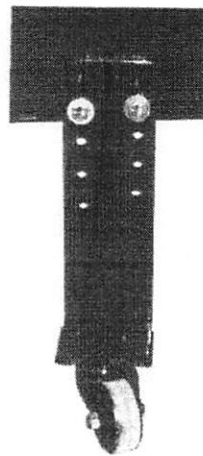

Figure 10a
b. The second adjustment is accomplished by adjusting the height of the Tow Buddy legs. There are predrilled holes in the legs that allow you to raise or lower the height of the frame from above the legs. By adjusting the leg height you can raise or lower the height of the fork. In this adjustment, raising the height of the legs lowers the height of the fork, while lowering the height of the legs raises the fork (See Figures 10a and 10b). Adjust the legs to get the fork to the desired height and tighten bolts securely. Using these two adjustments you should be able to get the fork height to the recommended 1" height above the attaching point on your aircraft. When making adjustments try to keep the Tow Buddy frame level to the ground. When done properly, the legs of the Tow Buddy will not be touching the ground when the unit is attached to the aircraft (by approximately the same 1"). This height allows for ease of connecting to the aircraft while allowing for downward pressure on the handle to increase the traction of the tire, when necessary.